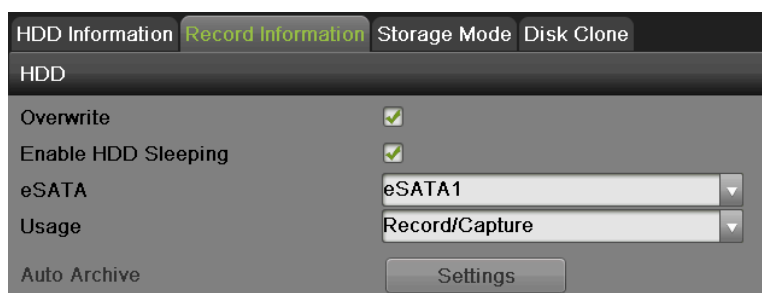

Figure 195 Record Information Menu
2. Select the Record Information tab, as shown in **Figure 195**.